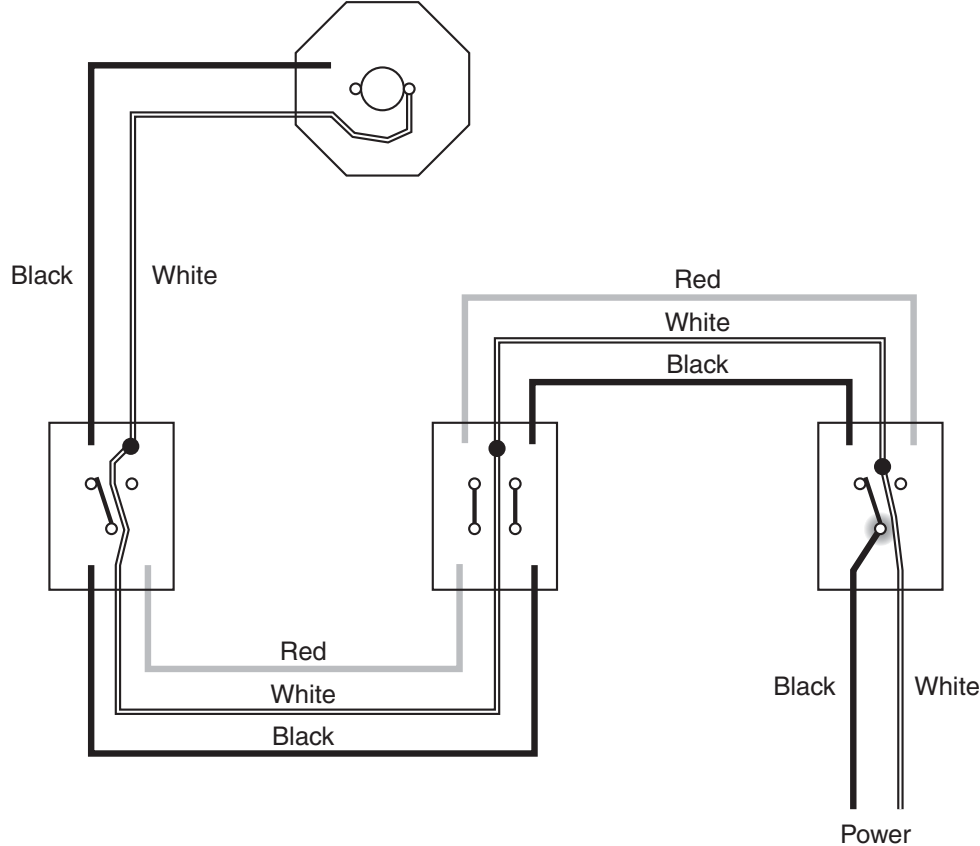

Figure 9-10 The hot conductor connects to the common terminal of one 3-way switch.
2. *Connect the hot conductor to the common terminal of one 3-way switch.* Since the black wire of the power cable is hot, it will be connected to the common terminal of the 3-way switch (Figure 9-10).